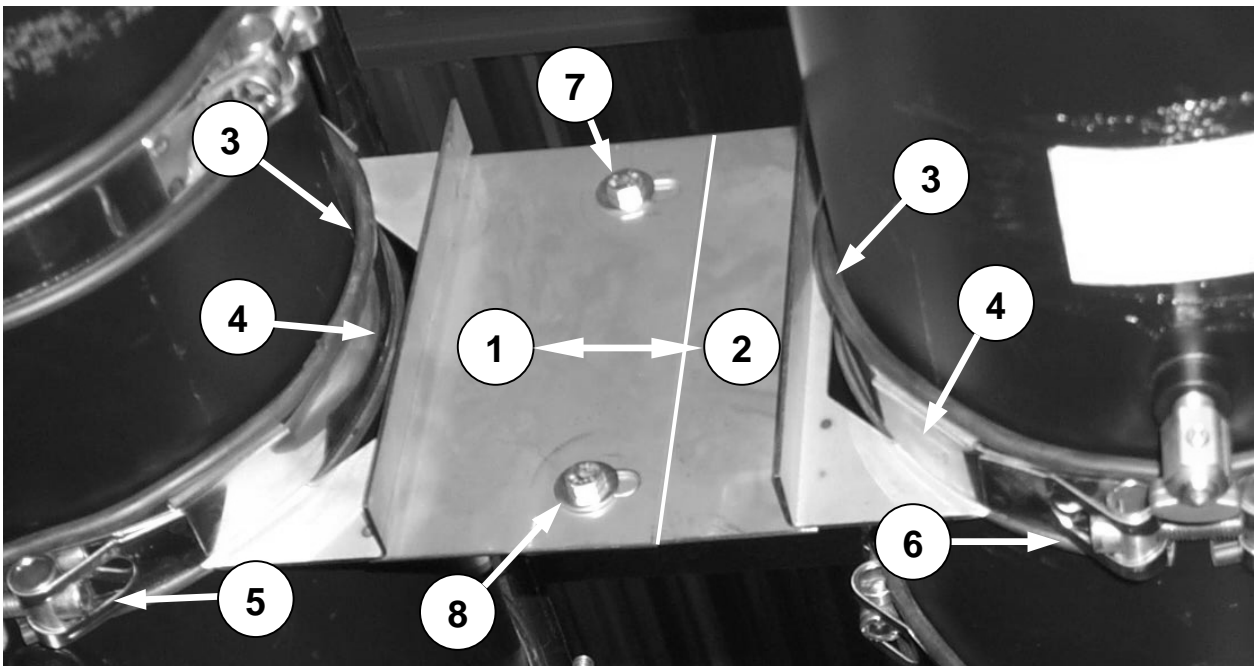
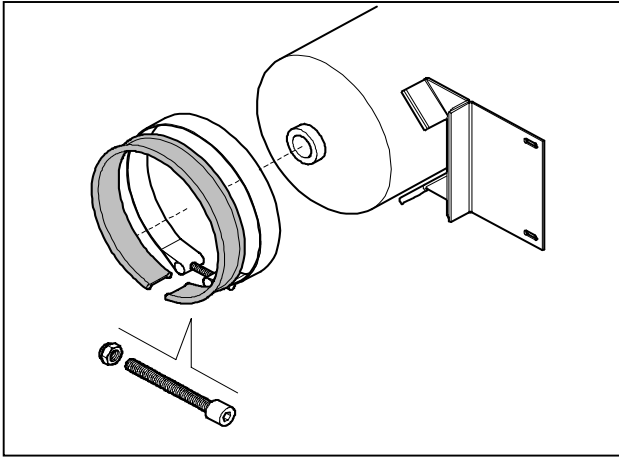

Figure 11: Air tank interlocking assembly installation
Figure 12: Tank interlocking assembly (one half shown)
- 2) Install the interlocking assembly between both air tanks (1 and 2, Figure 11).
- 3) Using two tank mounting bands and rubber moldings (3 and 4 Figure 11), secure each one of the interlocking assembly halves to tank #1 and tank #2 respectively. Secure the bands hand tight with the Allen bolts (5 and 6, Figure 11). Figure 12 shows one half of the assembly.
- 4) Tighten interlocking assembly bolts (7 and 8, Figure 11) to a torque of 15 ft.lbf (20 Nm).